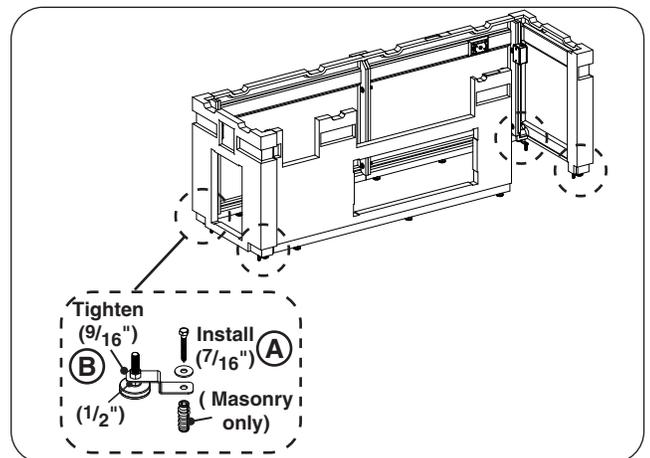

Fig. 11-3 Mount island
1. Secure the island to the floor using the 4 pre-installed mounting brackets. Use a  $\frac{7}{16}$ " open end wrench and the supplied mounting hardware as appropriate. See Fig. 11-3, A.
Finish by tightening down the brackets. Hold a leveler in place (below bracket) with a  $\frac{1}{2}$ " open end wrench, and tighten the nut (above bracket) using a  $\frac{9}{16}$ " open end wrench. See Fig. 11-3, B.